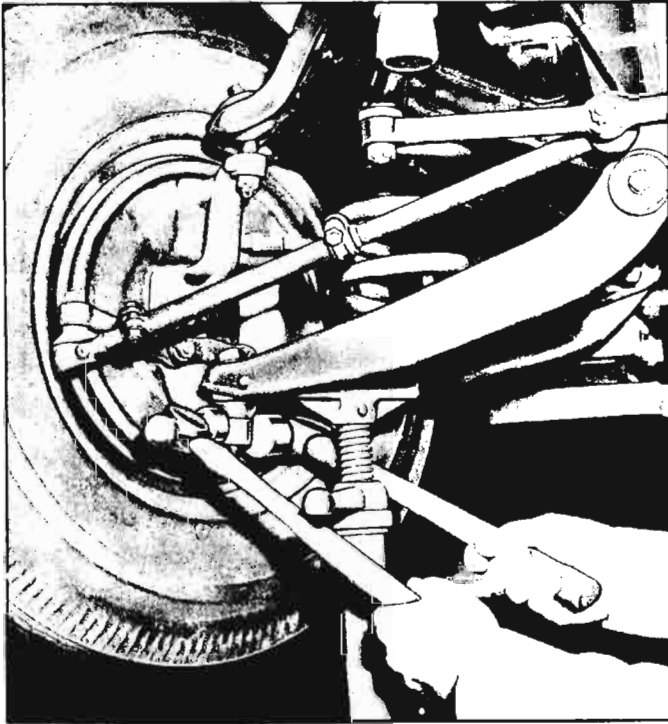

Fig. 3-57—Freeing Ball Stud
5. Remove nut from lower control arm ball stud and strike knuckle boss with hammer, backing up boss with larger hammer (fig. 3-57).